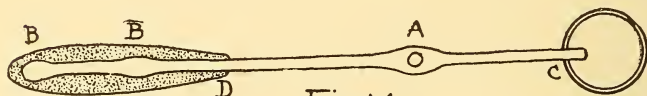

FIG. 14
Obtain a piece of brass, copper, or German-silver rod three-sixteenths of an inch in diameter. Now cut two short rods, each six inches long, and two inches from one end flatten the rods with a hammer, as shown at A in Fig. 14. Flatten the rod in two places at the other end, as shown at B B in Fig. 14; then bore holes through the flattened parts (A), so that the binding-screws at the top of the posts (P P) will pass through them.